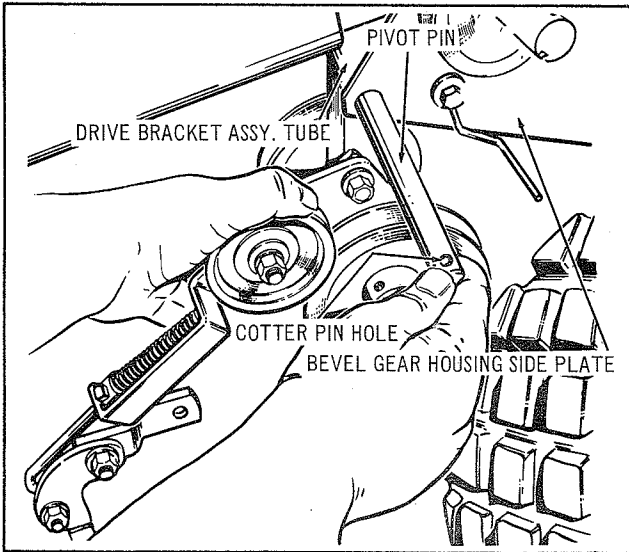

FIG. 16
2. Holding the Power Take-Off Assembly in left hand as shown in Figure 16, position the tube of the Drive Bracket Assembly between the Bevel Gear Housing Side Plates. Align the holes in Side Plate with the hole in Drive Bracket Assembly Tube and insert Pivot Pin through holes in Side Plates and Drive Bracket Assembly Tube.